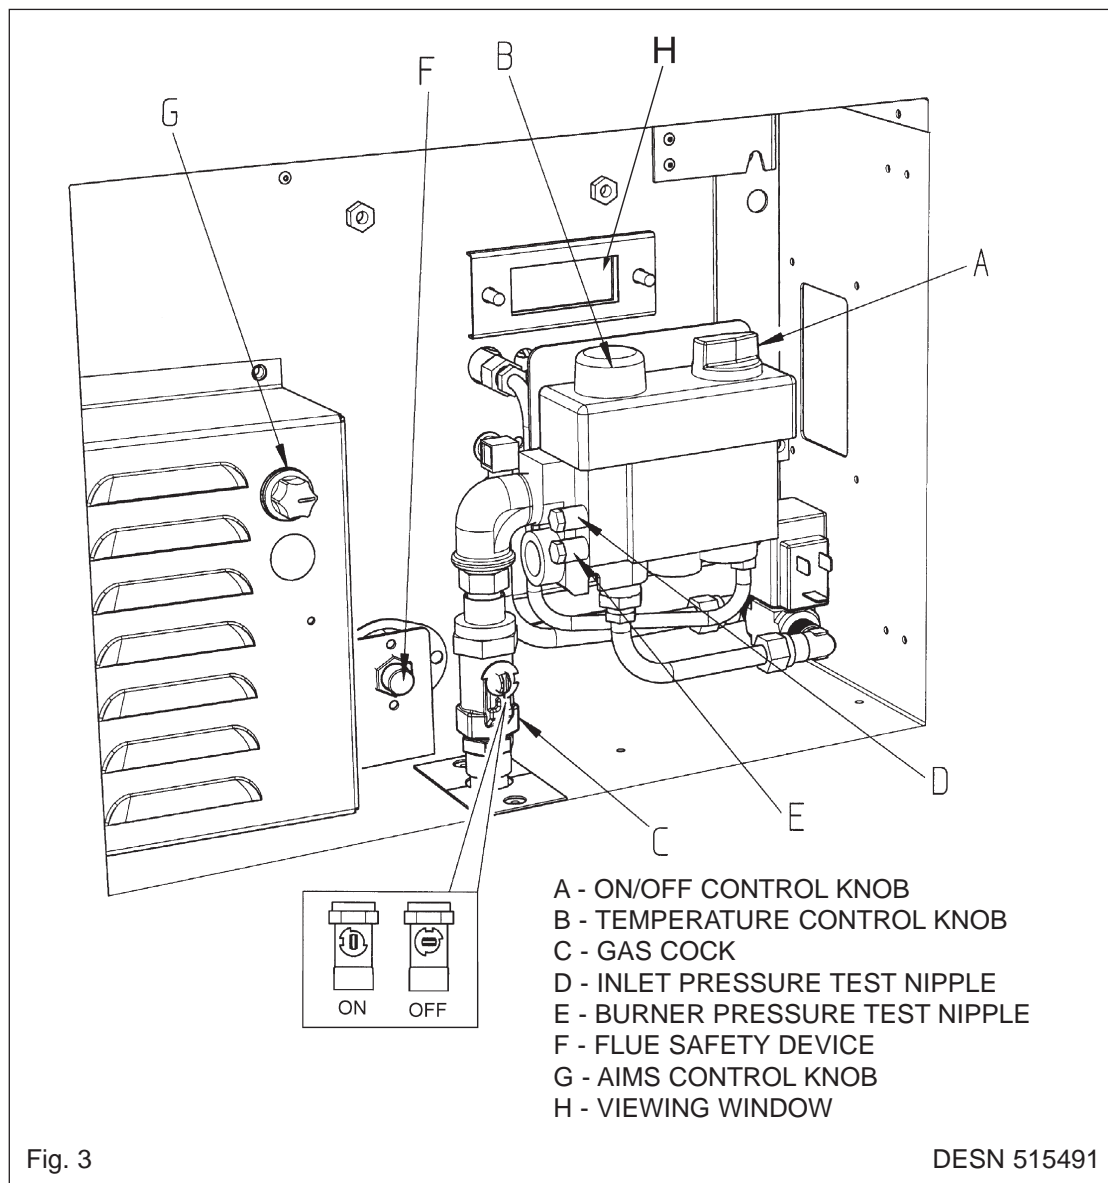

Fig. 3
CAUTION: BEFORE LIGHTING: ENSURE KNOB (A) IS IN THE OFF POSITION (SEE FIG. 5). ALSO ENSURE GAS SUPPLY TO COOKER IS ON, AND THE GAS SERVICE COCK (C) IS IN THE ON POSITION (SEE FIG. 3), AND THE ELECTRICITY SUPPLY TO THE AGA IS SWITCHED ON.
NOTE: 'LOW FIRE' position is attained by turning knob (B) gradually into the white band, until SMALL FLAME is observed through viewing window (H). (See Fig. 3).